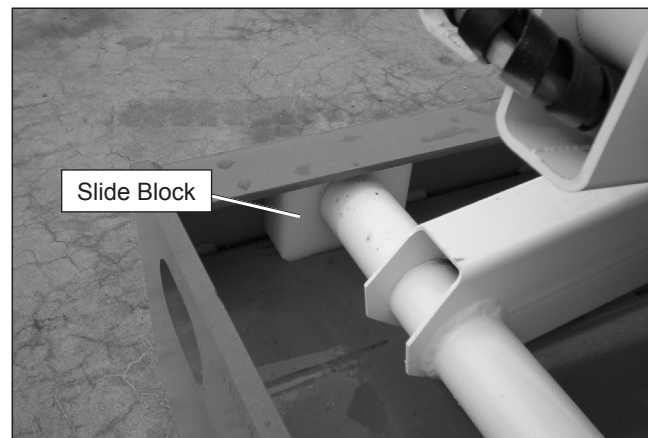

Figure 8.14 – Front of Chassis
1. Visually inspect the scissors arm slide blocks (refer to Figure 8.14). They must be free to move without obstruction. There is one slide block on each side of the chassis.